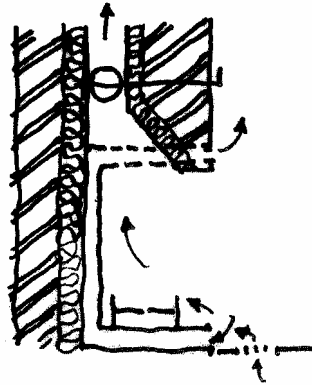

Figure 10.25 – Insulate fireplace and chimney – Use air convection
- ❖ **Consider insulation of fireplace and chimney and use of air convection (Jet master principle). Fig10.25**